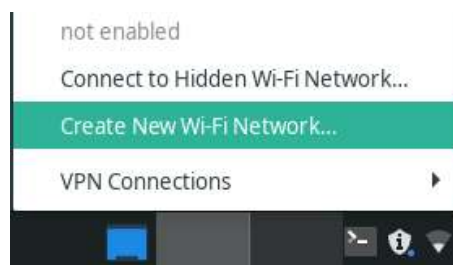

Figure 33: Retrieve Wi-Fi Hotspot
- Close the current window and finally left click on the connection logo, *Create New Wi-Fi Network* (see figure 33) and select your connection in the drop-down list to enable it.